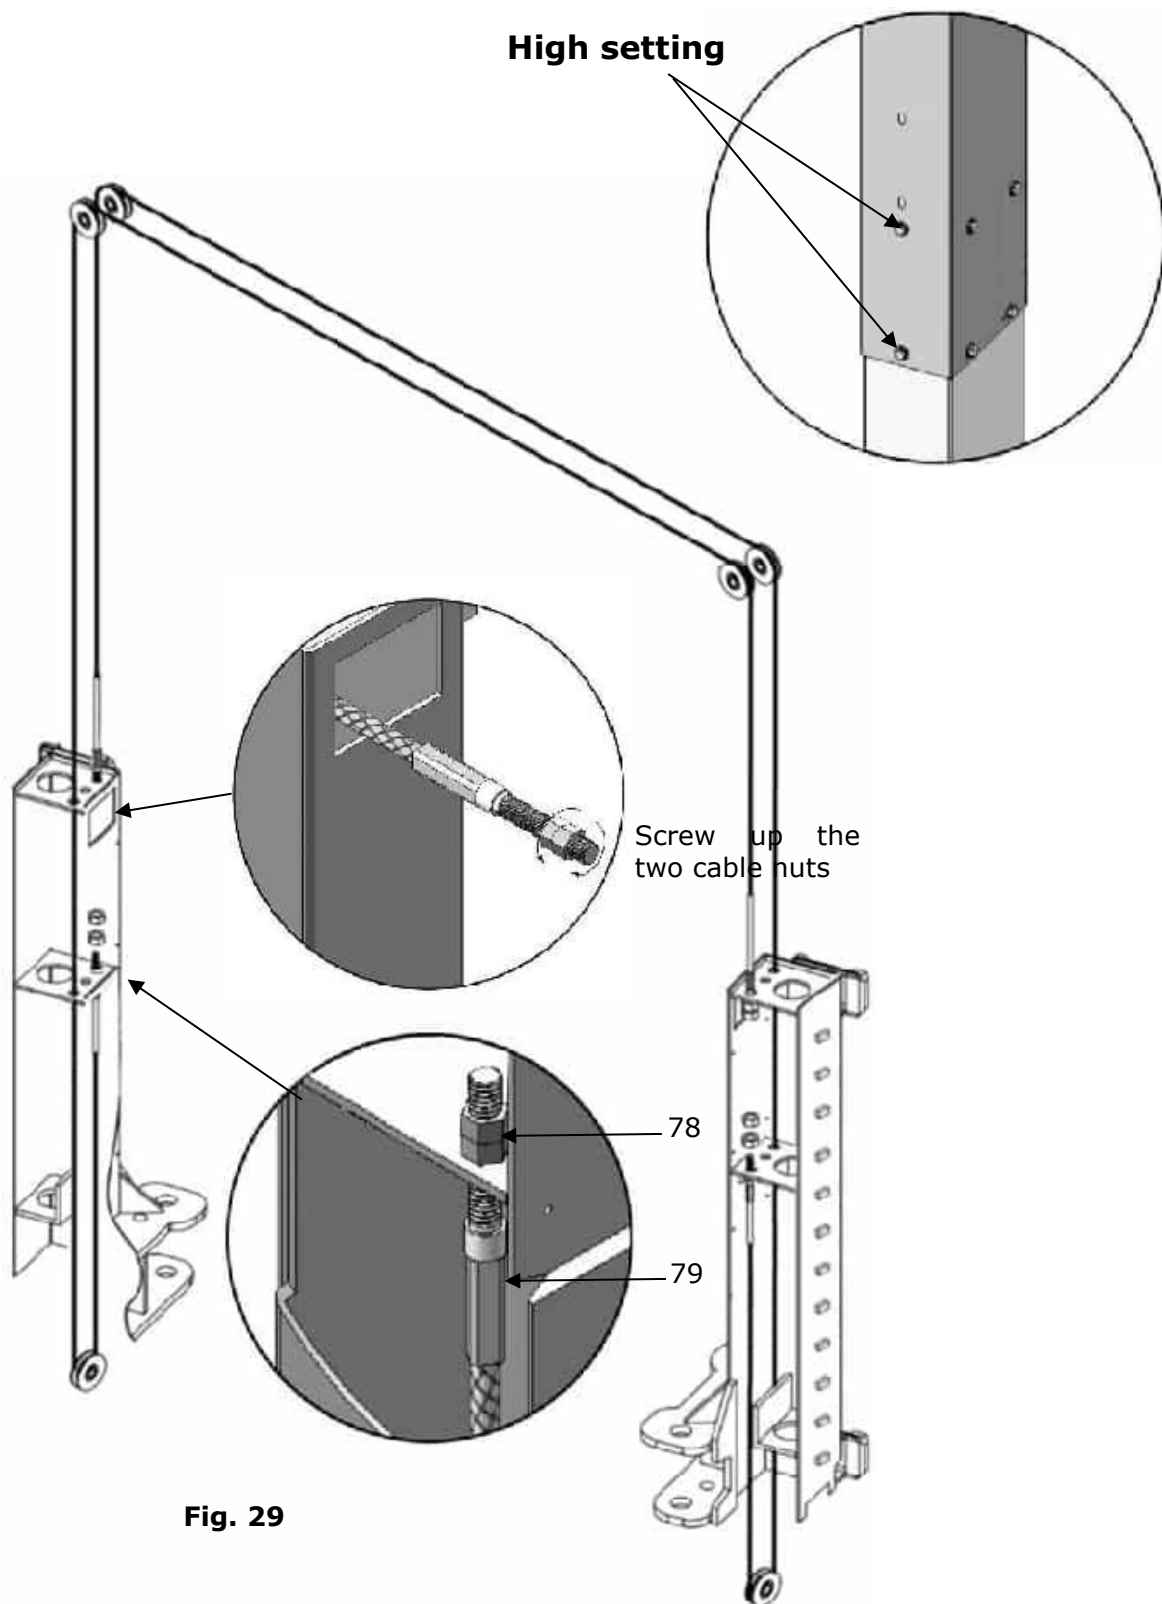

Fig. 29
2.1 OHX-10H cable connection of high setting(see fig. 29).